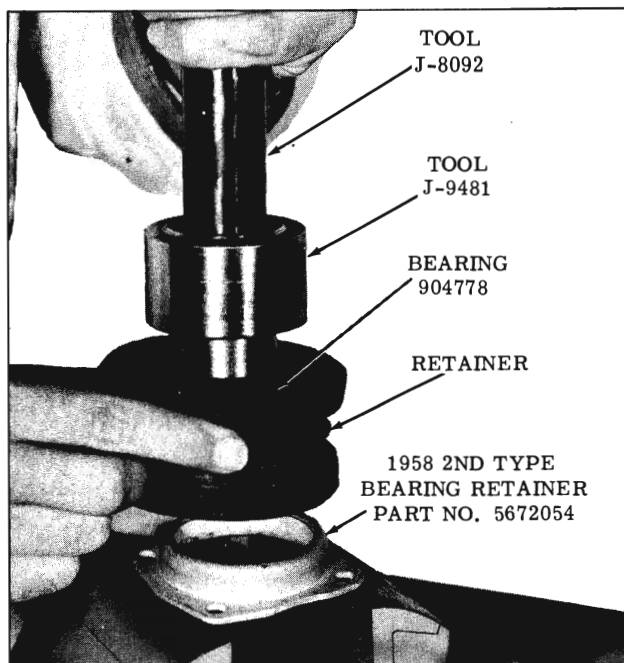

Fig. 6-146 Installing Bearing In Insulator
1. Position a 2nd type 1958 center bearing retainer (Part No. 5672054) on the open jaws of a vise to back up the metal portion of the bearing retainer. Drive new bearing into retainer using Tools J-9481 and J-8092 as shown in Fig. 6-146. Rebend tabs on the retainer to original position.